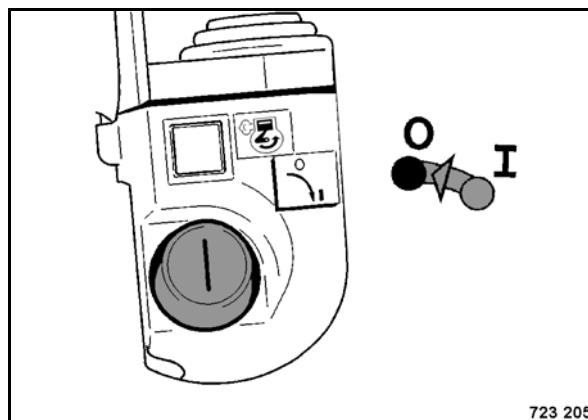

Fig. 50
- Turn the ignition switch (Fig. 50) to position "0".